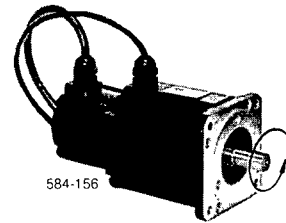

Fig. 9.1 Motor Forward Running
- When the reference voltage is positive, the motor rotates forward (counterclockwise viewed from drive end—output shaft) (Fig. 9.1).
The forward rotation of motor is counterclockwise viewed from drive end (output shaft) See Fig. 9.1.